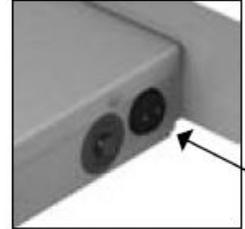

Figure 10 Charging point.
- The charging point is located in the center of the undercarriage (See figure 10).
- Connect the charger to the Marina (See figure 10).